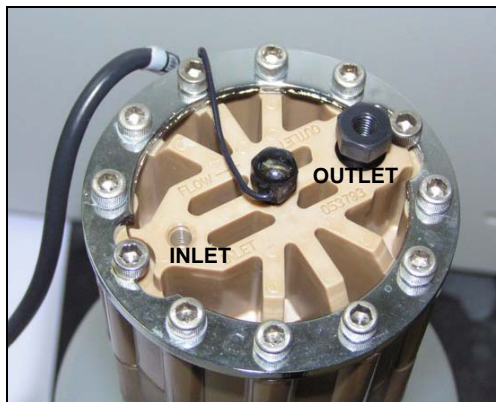

Figure 84. EluGen Cartridge Fitting Plugs
1. Orient the EluGen cartridge with the fittings facing up and remove the plugs from the cartridge **INLET** and **OUTLET** fittings (see Figure 84).